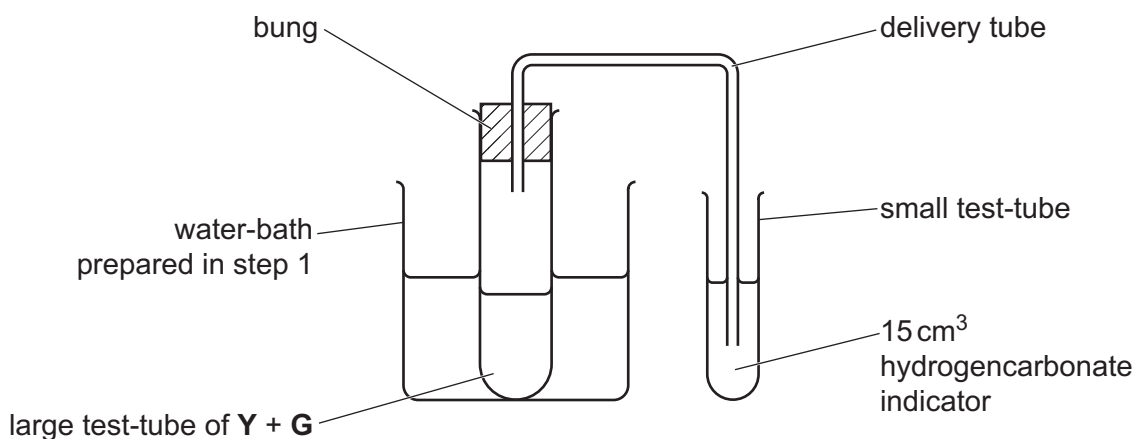

Fig. 1.2
- step 4 Set up the apparatus as shown in Fig. 1.2.